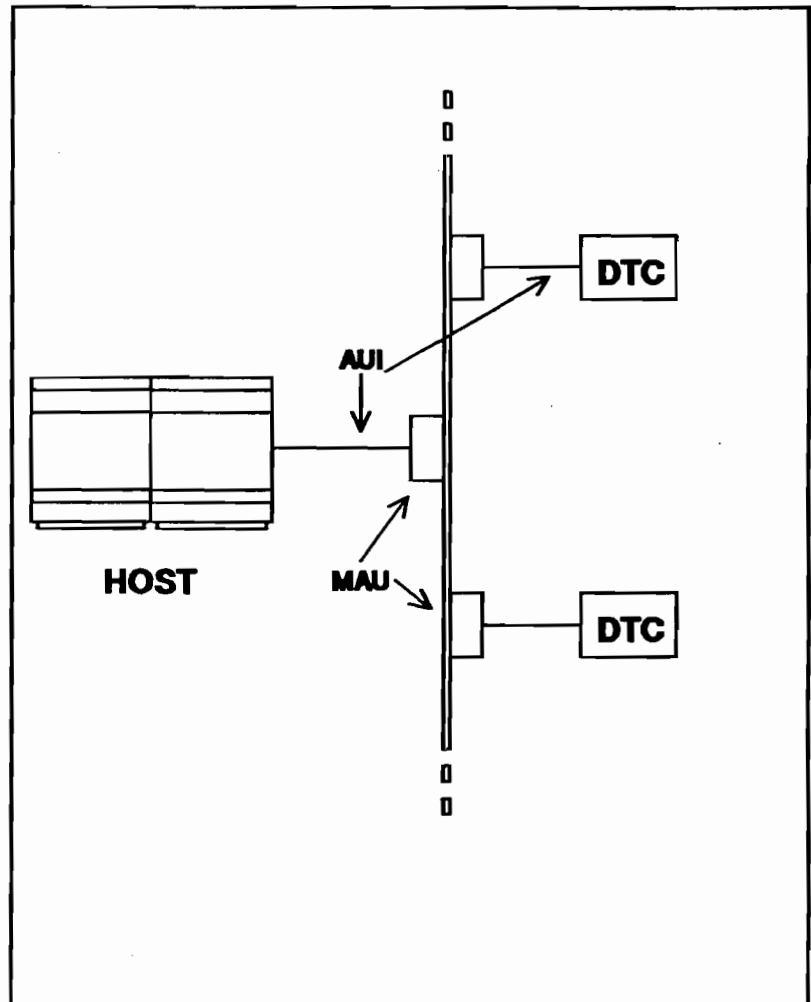

Figure 1-3. ThickLAN Configuration
- Figure 1-3. ThickLAN Configuration 1-6
The second version of the LAN cable, ThickLAN (Type 10 BASE 5) offers maximum connection lengths of up to 500 meters (1600 feet), and supports up to 100 nodes. Each node on the LAN is connected through a Medium Attachment Unit (MAU). An Attachment Unit Interface (AUI) cable runs between each node and its MAU, as well as between the host computer and its MAU. You can connect up to three segments of ThickLAN cable with two repeaters, thus extending the length of the LAN to 1500 meters. Figure 1-3 shows a ThickLAN configuration.